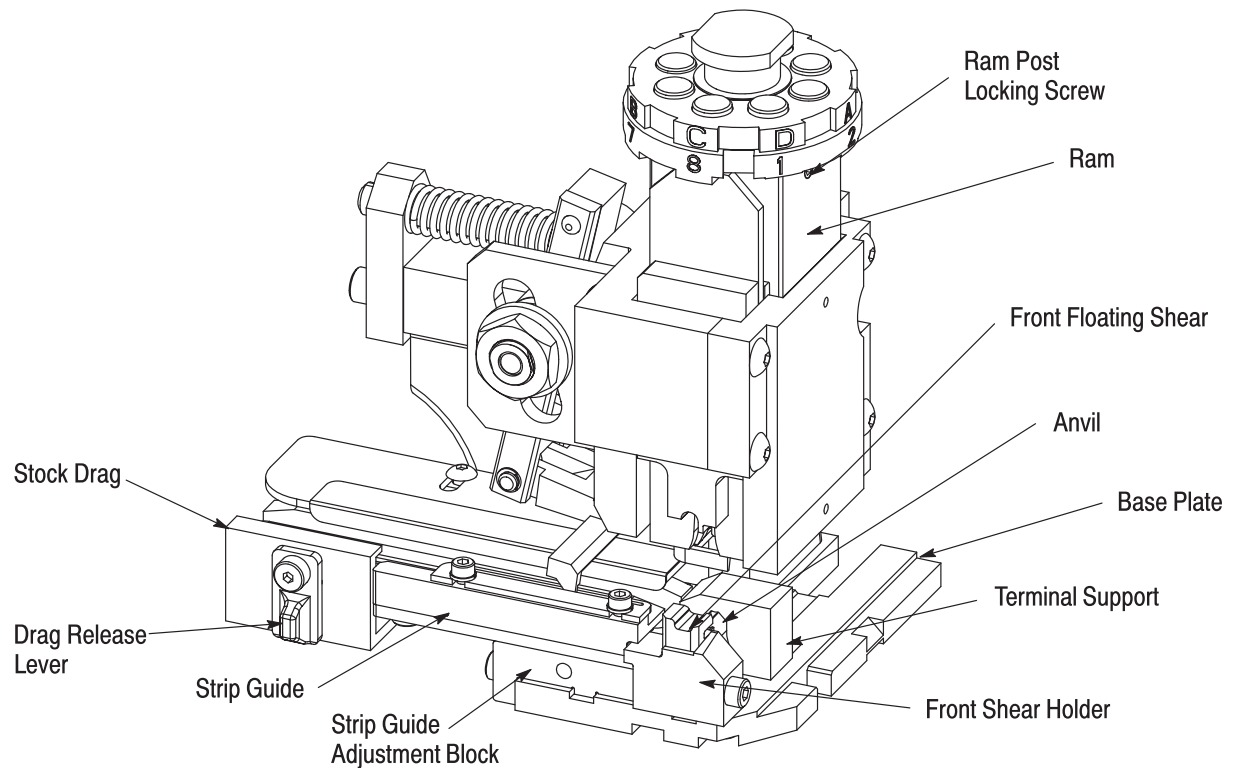
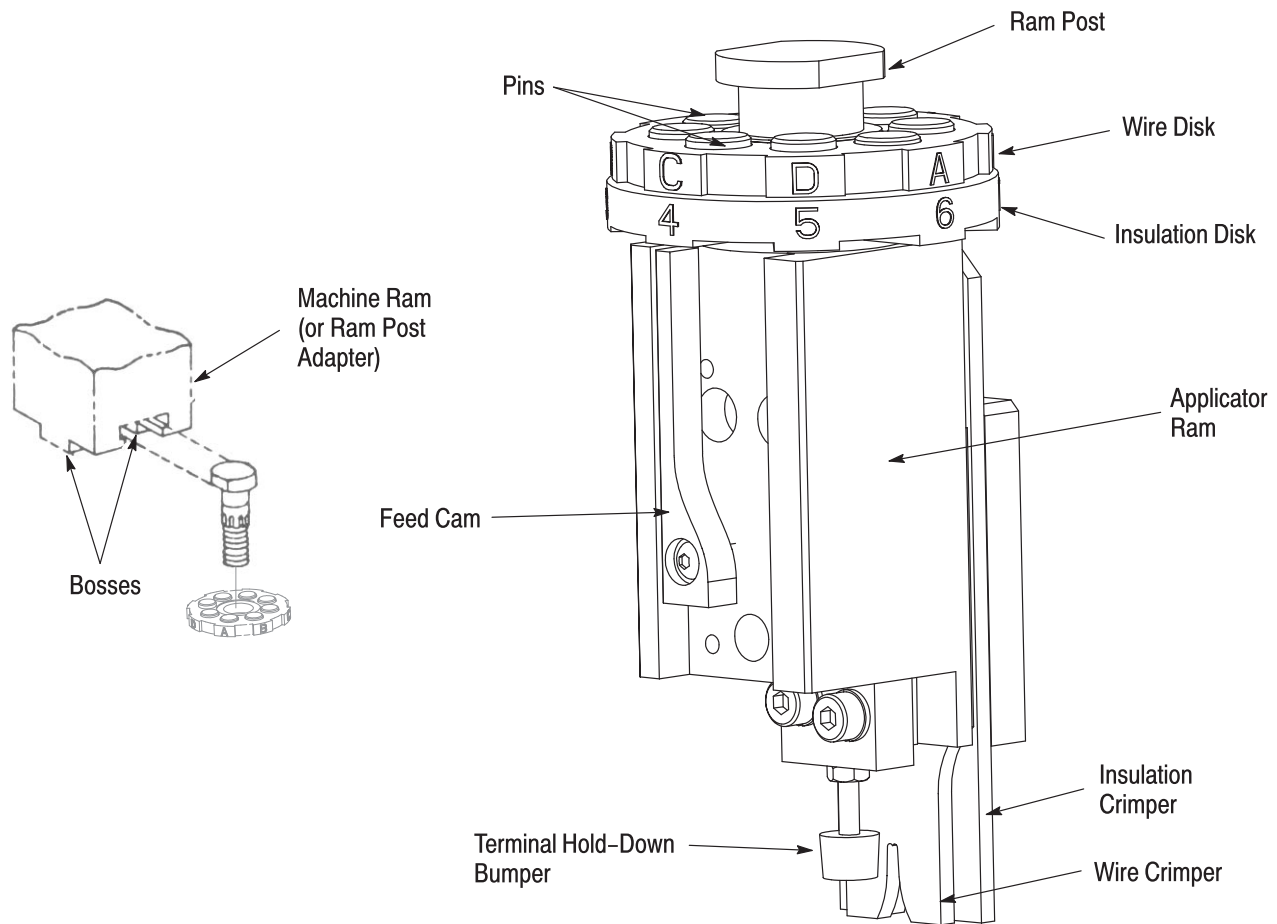

Figure 1
Figure 3
The main components of the applicators are identified in Figures 1 and 2. The ram assembly is shown in detail in Figure 3.
Just below the ram post are the wire disk and the insulation crimp disk. The wire disk has as many as four pairs of pins installed, depending on the number of different wire sizes the terminals will accept. Each pair of pins has a different height. By rotating the disk, each pair of pins can be lined up with the two bosses on the ram post adapter (see Figure 3) to change the applicator crimp height. Some terminals accept more than four wire sizes. Terminating additional wire sizes will require adding or replacing pins in the wire disk. Refer to the applicator assembly drawing and Paragraph 7.6 for more information. The insulation crimp disk contains eight pads of different heights. When this disk is turned, the pads line up with the top of the insulation crimper to change the insulation crimp height.
2. Turn wire disk (upper disk) to line up selected pad letter with the bosses on the machine ram (or ram post adapter). See Figure 3. This provides the right crimp height for that wire size.